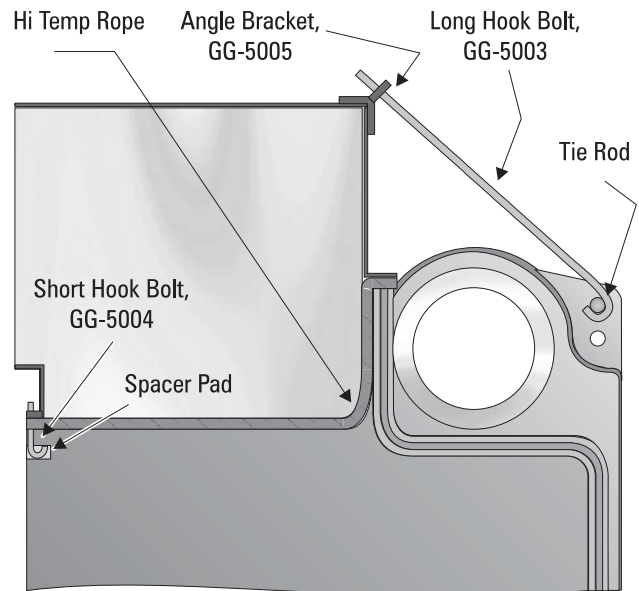

Figure 4.2: Installing Flue Collector Sections
4. Fasten an angle bracket, part number GG-5005, to the top of each Collector section with two #10 x 1/2" (13 mm) long sheet metal screws. See Figure 4.2.
5. Insert a Long Hook Bolt, part number GG-5003, through the angle bracket. Slip the hook end over the tie rod. Apply a 1/4"-20 hex nut on the end of the rod and snug against the bracket. See Figure 4.2. Do not tighten yet.
6. Insert a Short Hook Bolt, part number GG-5004, through the flange in the rear of the flue collector. Catch the hook around the spacer pads at the top of the boiler sections. Apply a 1/4"-20 hex nut on the Bolt and snug against the flange. See Figure 4.2. Do not tighten yet.